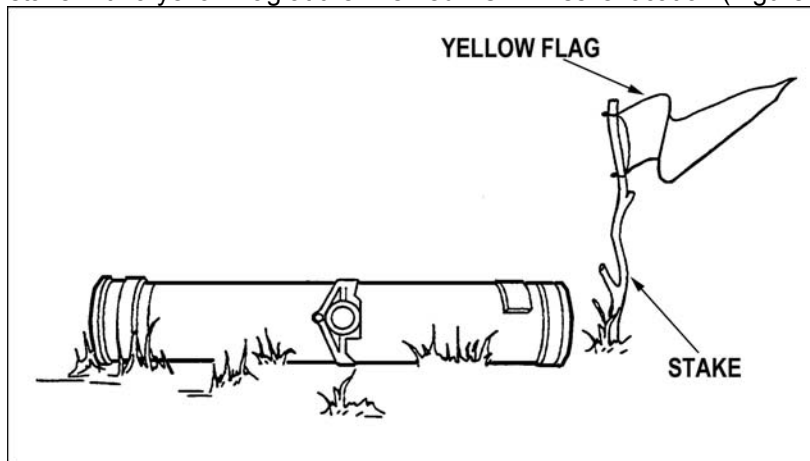

Figure 7. TOW misfire marker.
- (1) Move misfired TOW missile at least 650 feet (200 meters) from vehicles, buildings, personnel, and equipment.
- (2) Position TOW missile in such a direction so if the TOW missile fires, neither the backblast nor the TOW missile will strike vehicles, buildings, personnel, or equipment.
- s. Place a stake with a yellow flag at the misfired TOW missile location (Figure 7).